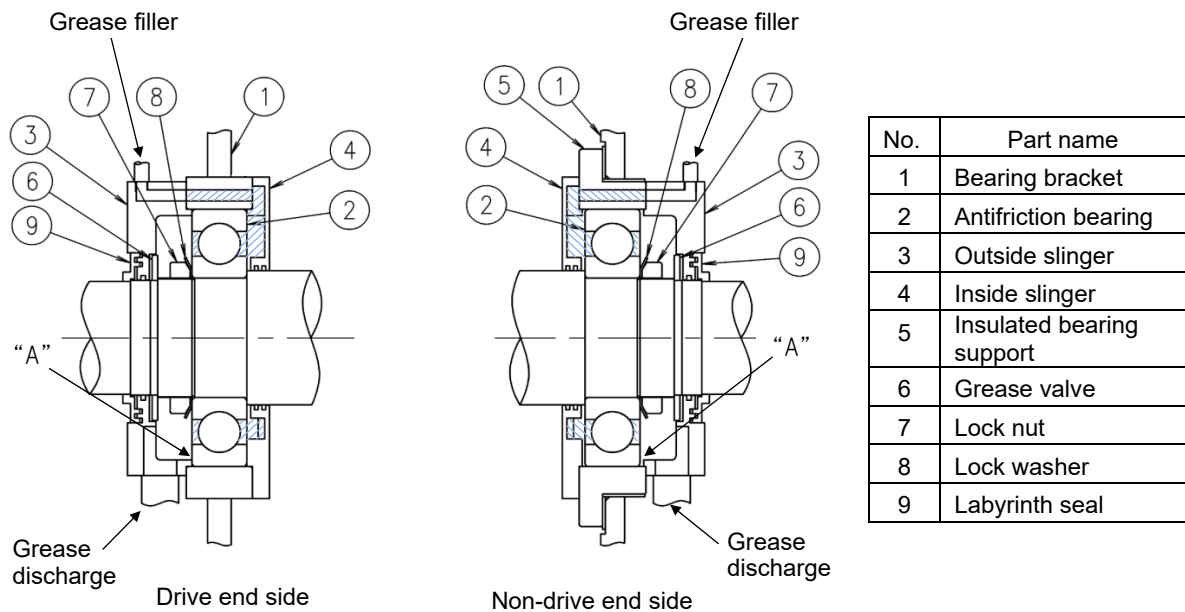

Fig. 13-12 Grease lubricated antifriction bearing structure
Construction of antifriction bearings of a horizontal motor is shown in Fig. 13-12. Disassemble and reassemble the antifriction bearings as follows.
- (1) Disconnect the load machine from the motor.
- (2) Remove the thermometer and other accessories.
- (3) Remove the coupling.
- (4) Remove the parts in the bearing area, referring to Fig. 13-12. Take care not to damage the parts during removing.
Fill the hatched area in Fig. 13-12 with grease. The space to be filled with grease includes the supply sector of the inside oil shield, 2/3 of the other sector, the feed route from the grease nipple, the bearing interior, and portion "A" in the drain area.